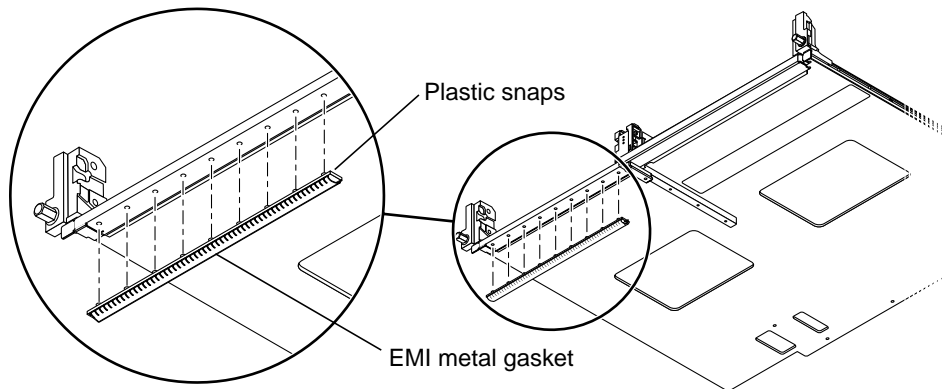

FIGURE 4 Installing the EMI Metal Gasket
9. Install the new gasket by aligning the nine (9) plastic snaps with the row of nine (9) holes at the front edge of the carrier plate, as shown in Figure 4. Using your thumb and forefinger, apply pressure to the snaps until each snap is fully seated into the nine (9) holes and no visible bumps or ridges are showing.